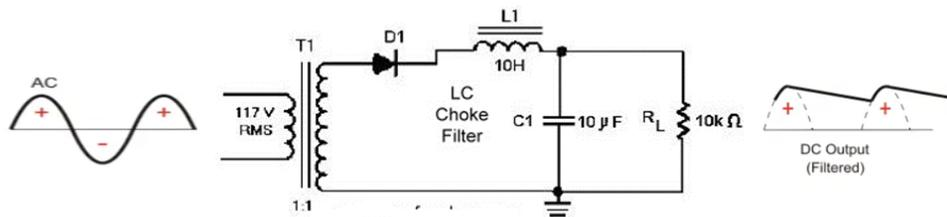

Figure 7.2: Half wave rectifier (HWR) with LC filter
1. Connect the circuit of rectifier with LC / π Filter on bread board as shown in figure 7.2